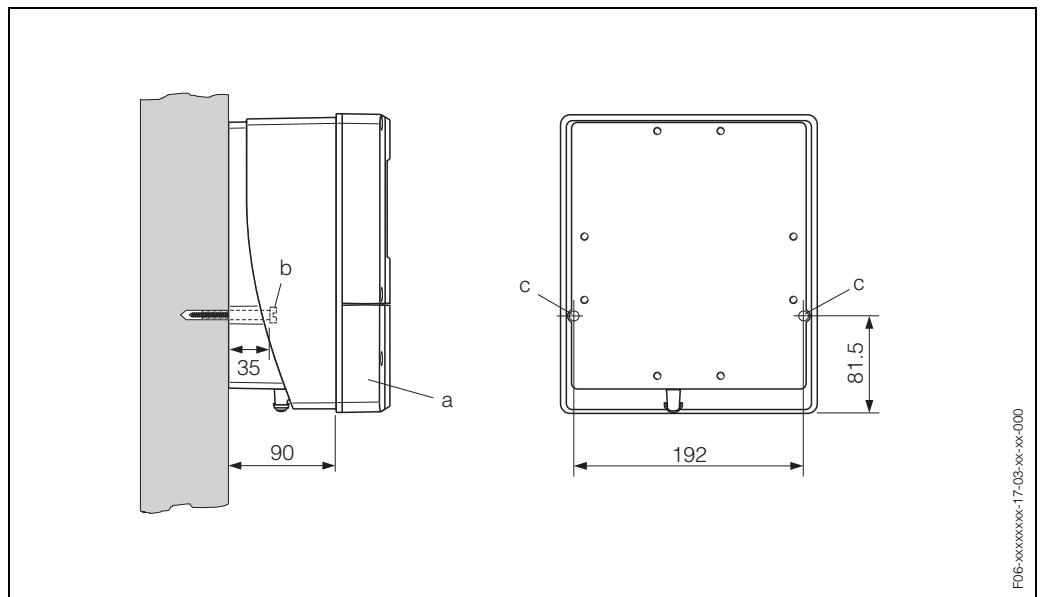

Fig. 14: Mounted directly on the wall
1. Drill the holes as illustrated in Fig. 14.